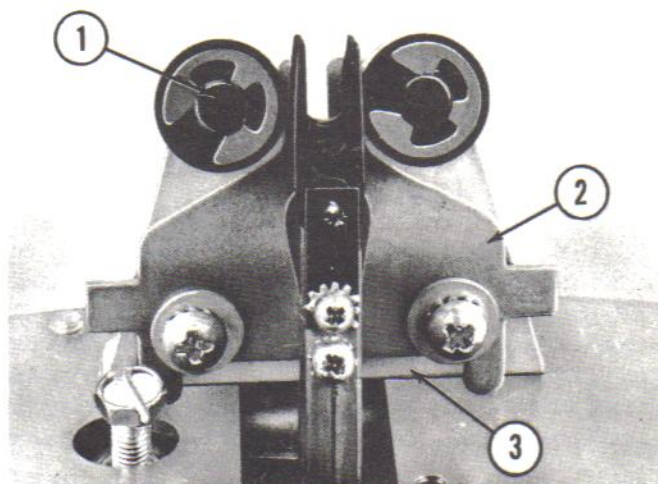

Fig. 39. BRACKET AND ROLLER GUIDE ASSEMBLY, LIFT ARM GUIDE, 2500
(1) The roller guides for the record lift arm spring loaded guide tips are mounted on top of the chassis mounting plate. When the arms are down the guide tips are held straight in line and centered between the guide rollers by the adjustable slotted plate (Fig. 39, Item 2).
The two bracket and roller assemblies, one of which is shown in Figure 39, Item 3, are the basis for the indexing procedure and are located on the chassis mounting plate by means of an assembly fixture, after which they are painted in line. The outline thus formed provides a reference for relocating the brackets should they be moved for any reason.